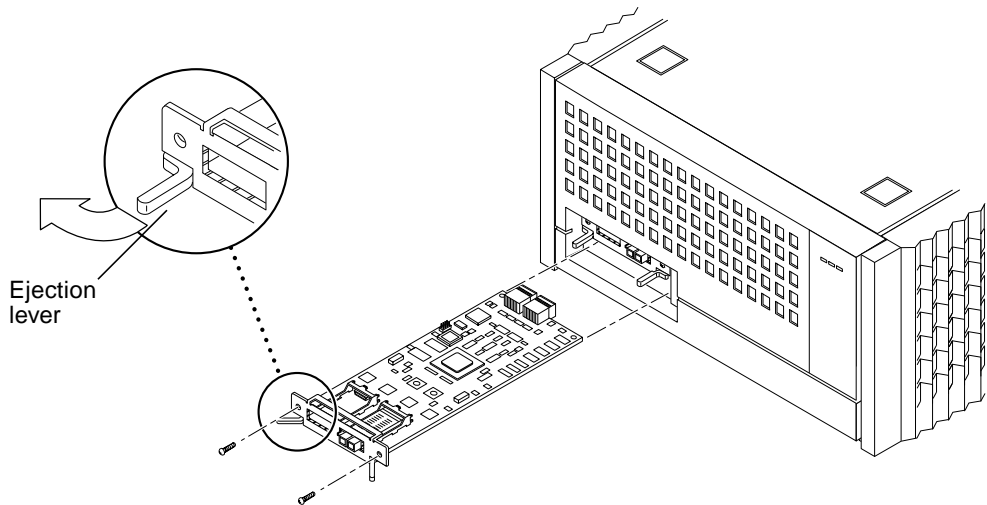

FIGURE 7-6 Removing an Interface Board
Note – If you are installing a second interface board, use a Phillips screwdriver to remove the screws securing the spacer to the interface board slot. Remove the spacer and install the interface board (FIGURE 7-6).
3. **Remove the interface board** (FIGURE 7-6).